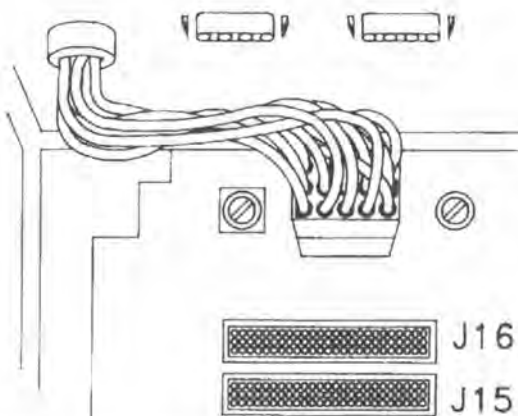

Figure 1. System Board Memory Locations
- Remove the memory card installed in connector J15 (see Figure 1).